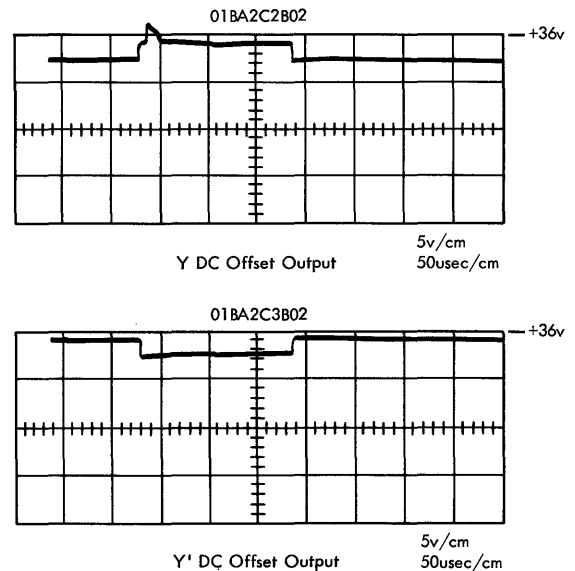

Figure 1-17. DC Offset Outputs
29. Insert DC offset cards (PN 5801309) in 01BA3D2/D3 and 01BA3K2/K3. Install low-order DC offset card (PN 5807042) in 01BA3E2 and 01BA3J2. Scope at points indicated in Figure 1-17.